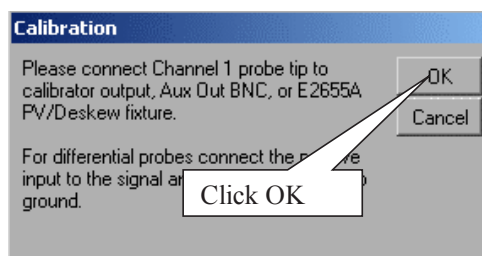

Figure 115 Calibration Window.
- 6 Referring to Figure 115 shown below, perform the following steps: